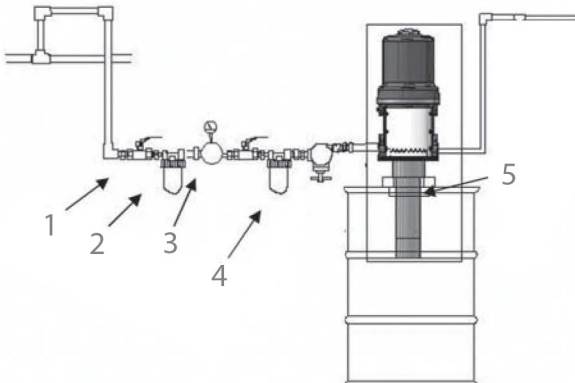

Fig.3: Oil supply system installation
- Put the pump into bung adapter (Fig .3 Parts 5), Install air supply valve (Fig 3. Part 1).
- Install filter (Fig 3. Part 2).
- Install regulator (Fig 3. Part 3).